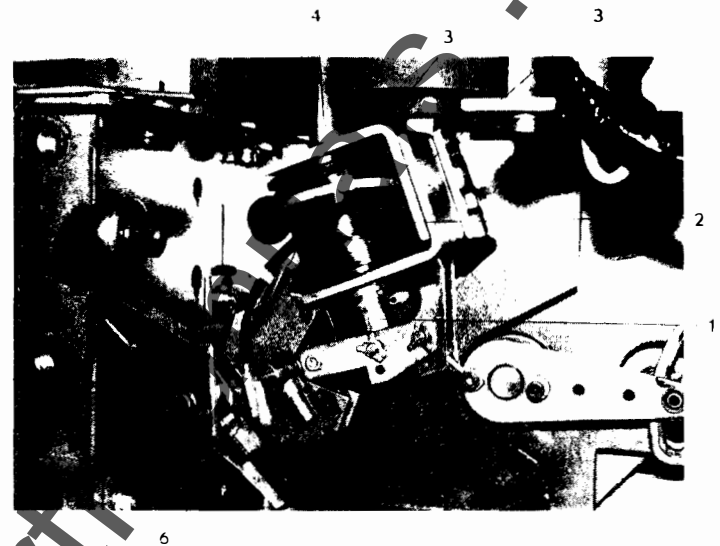
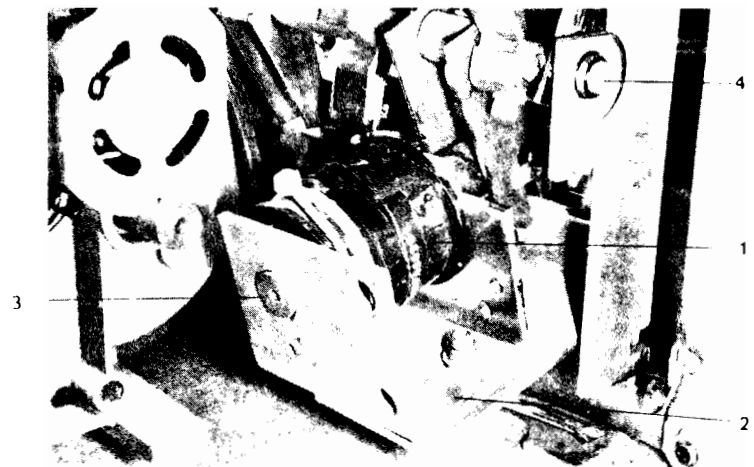

Fig. A3 Trip Coil
Fig. A4 Close Coil
Remove the breaker front plate to gain access to the trip, (Fig. A3) or close coils (Fig. A4). To replace trip or close coils, cut wires at the butt connection (6) Fig. A3, loosen the coil bracket bolt closest to the plunger and remove the other bracket bolt. Pivot the bracket and remove the coil. Drive out the pole piece and install in the new coil. Slide the new